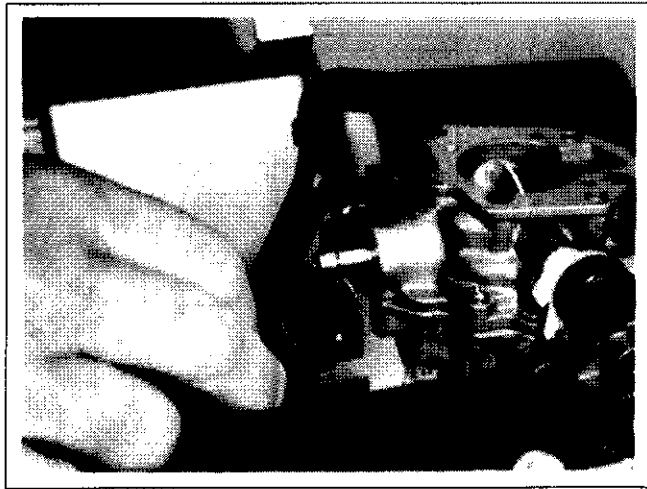

Figure 11-76. Connecting Fuel Inlet Line.
1. Install the rubber breather tube to the breather cover and connect the fuel inlet line to the carburetor. See Figure 11-76.